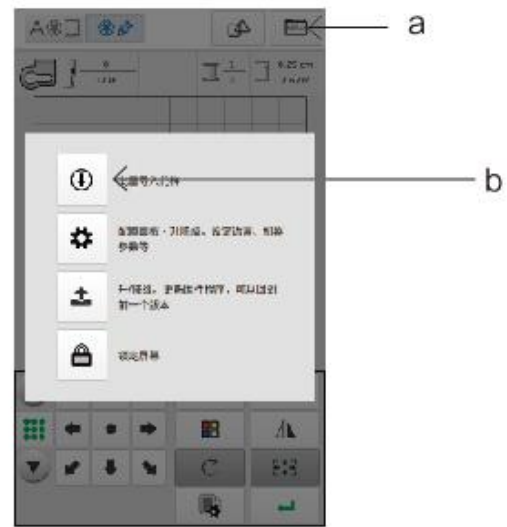
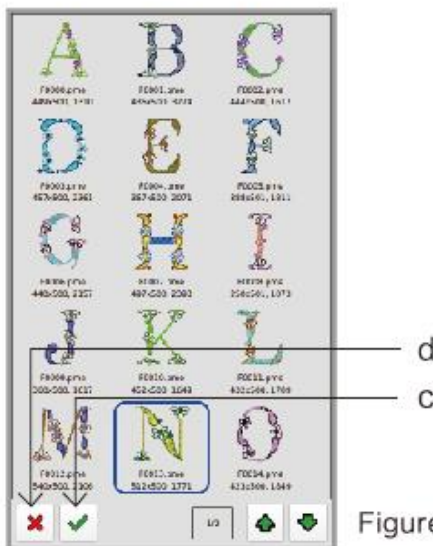

Figure 13
Figure 14
- ② Click a indicating to enter the interface in Figure 13. Click b indicating to enter the interface in Figure 14.
- ③ Select one or more patterns. Click c indicating to import them into the machine as a whole.
- ④ Select a pattern, click d and then click the editing key to embroider.